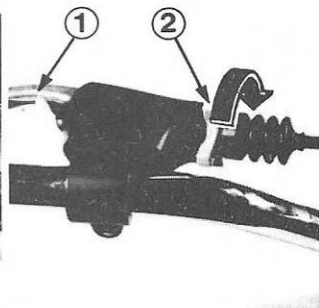
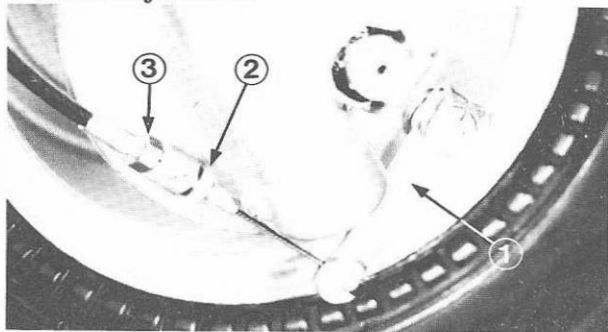

Fig. 35
Fig. 36 ① Brake Arm ② Lower Hex Nut ③ Upper Hex Nut
3. Back off the adjusting knob on the brake lever (Figure 35) and the lower hex nut (Figure 36).
4. Tighten the upper hex nut on the front wheel brake lever (Figure 36), until brake drag occurs on the spinning front wheel.
The adjuster knob (Figure 35) can also be used for fine adjustment of the front brake. Tighten in the direction of the arrow.